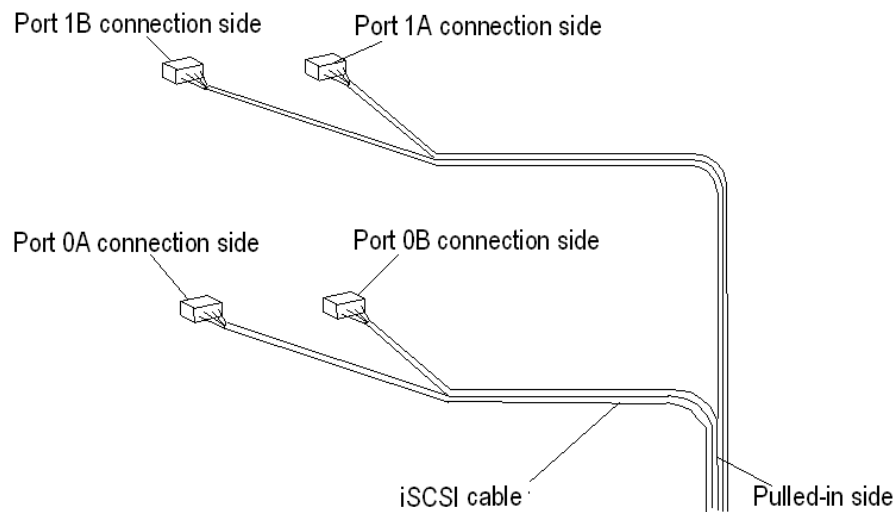

Figure 5-41: Binding iSCSI Cables Together
3. Using the reusable cable ties provided, bind the cables together and fasten them securely to the rack at enough places to keep the cables close to the rack over their entire length. Leave extra length for each cable so that the connectors will not be pulled out of the sockets. See Figure 5-41.